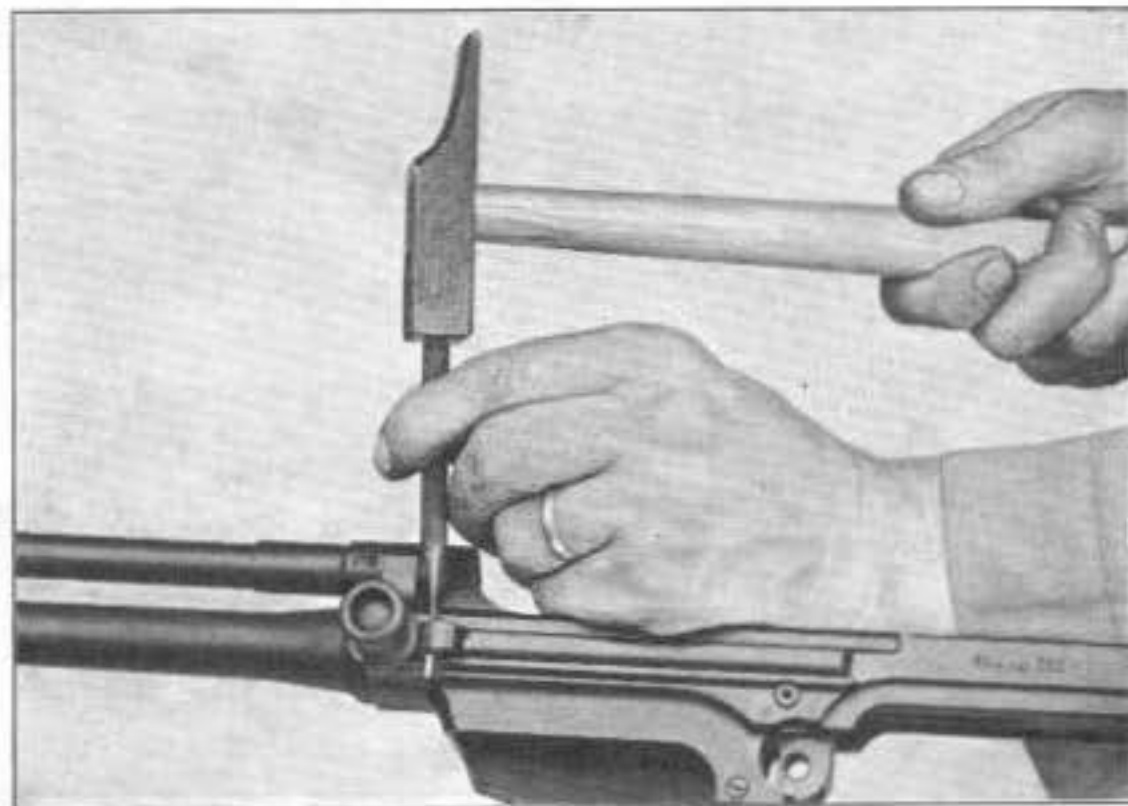

Fig. 74
Using a pin drift, remove the lug retaining pin (fig. 74).
N. B. — If the handguard has already been stripped (group of operations 3), after removing the cocking handle knob (fig. 74 and 75), it is only necessary to pull the handle forward to remove (fig. 78).